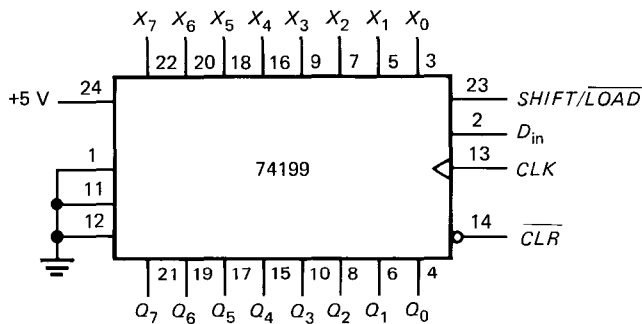

Fig. 8-30
- 8-4. A 74199 is an 8-bit shift-left register with a single control signal, as shown in Fig. 8-30. When  $\overline{SHIFT/LOAD}$  is low, the circuit loads the  $X$  word on the next positive clock edge. When  $\overline{SHIFT/LOAD}$  is high, the register shifts the bits to the left.
- 8-5. The clock frequency is 2 MHz. How long will it take to serially load the shift register of Fig. 8-30?
- 8-6. In Fig. 8-30,  $Q = 0001\ 0110$ . If  $\overline{SHIFT/LOAD}$  is high and  $D_{in}$  is high, what does  $Q$  equal after three clock pulses?